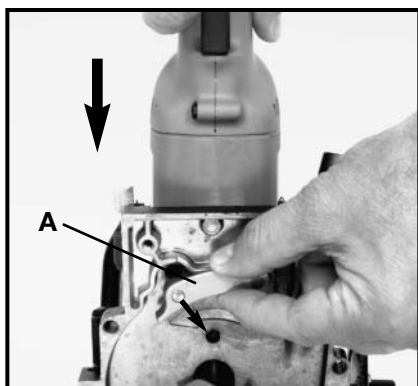
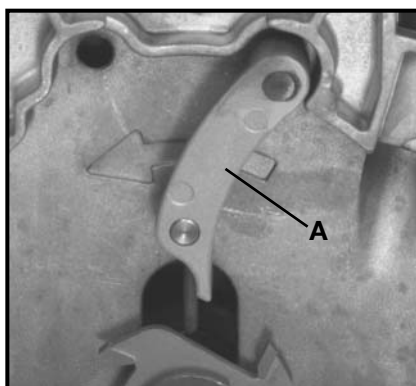

Fig. 13
Fig. 14
5. Place 2" diameter blade (furnished with tool), onto blade mounting flange (orient with teeth facing in same direction as directional arrow cast in housing, see Fig. 14).
10. Lift safety lever (A) Fig. 13, fully retract the plunge mechanism, and reposition the safety lever as shown in Fig. 14. **Slowly** release pressure on plunge mechanism.